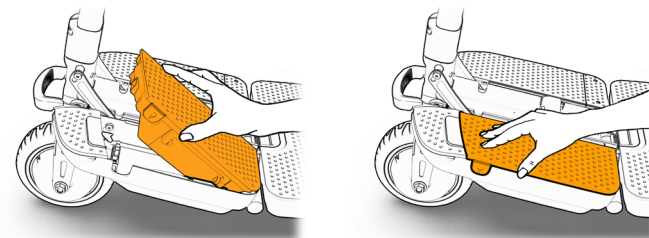

Figure 17
To install the battery, insert first the back end of the battery (1) and then push the front until the battery clicks and locks in place (2) (See Figure 17).